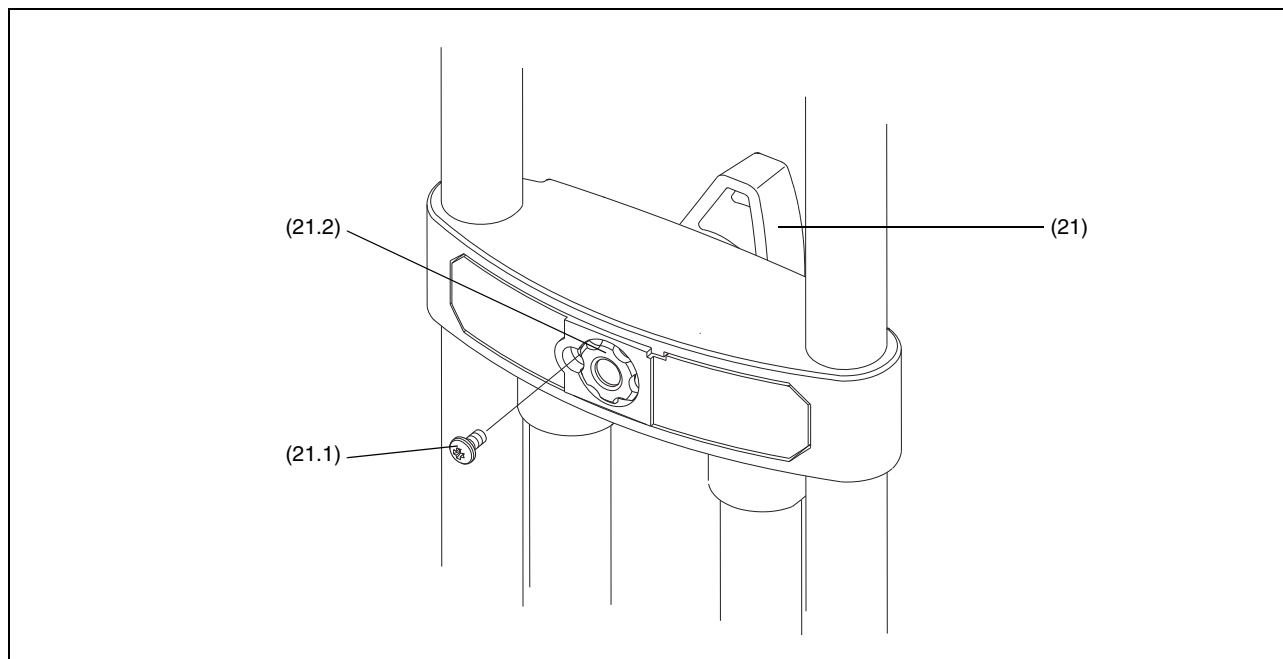

Fig 4.3 Top clamp adjustment
- 14 Adjust the top clamp as follows (Fig 4.3):
- 14.1 Turn the clamp knob (21) to the vertical, 'off' position